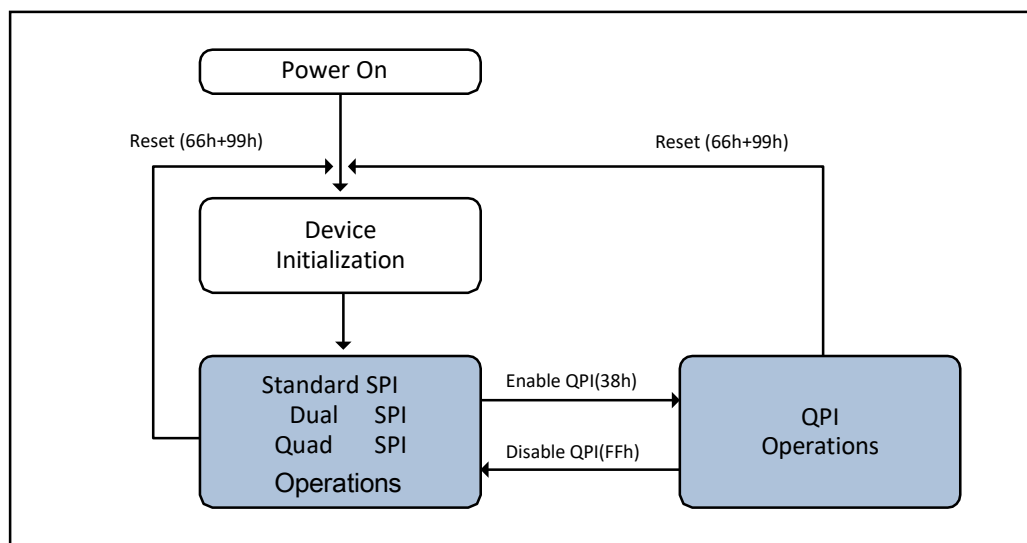

Figure 3. DS25M64E Serial Flash Memory Operation Diagram
The DS25M64E supports Quad Peripheral Interface (QPI) operations only when the device is switched from Standard/Dual/Quad SPI mode to QPI mode using the “Enter QPI (38h)” instruction. The typical SPI protocol requires that the byte-long instruction code being shifted into the device only via DI pin in eight serial clocks. The QPI mode utilizes all four IO pins to input the instruction code, thus only two serial clocks are required. This can significantly reduce the SPI instruction overhead and improve system performance in an XIP environment. Standard/Dual/Quad SPI mode and QPI mode are exclusive. Only one mode can be active at any given time. “Enter QPI (38h)” and “Exit QPI (FFh)” instructions are used to switch between these two modes. Upon power-up or after a software reset using “Reset (99h)” instruction, the default state of the device is Standard/Dual/Quad SPI mode. To enable QPI mode, the non-volatile Quad Enable bit (QE) in Status Register-2 is required to be set. When using QPI instructions, the DI and DO pins become bidirectional IO0 and IO1, and the /WP and /HOLD pins become IO2 and IO3 respectively. See Figure 3 for the device operation modes.